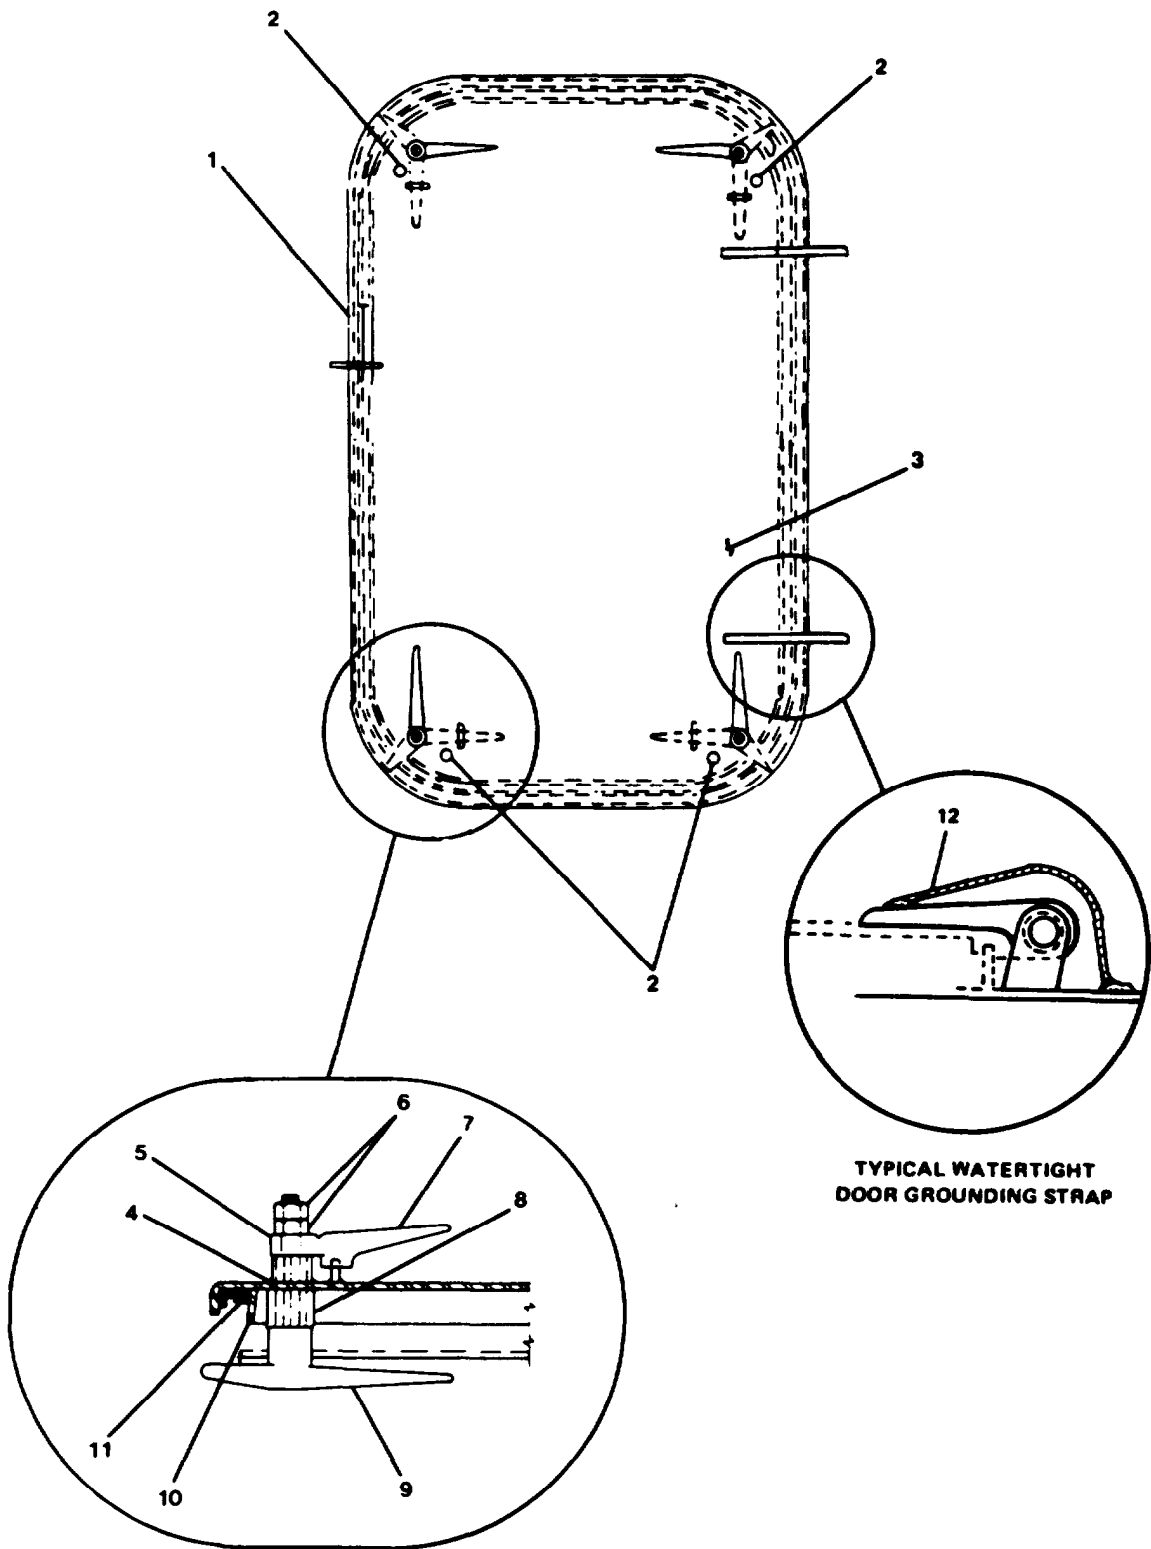

FIGURE 2-171. Repair Watertight Door. Four Dogs (30 x 51).
- a. Remove hex nuts (6, FIGURE 2-171) and handles (7) from door (1).
- b. Remove bronze bushing (5) and preformed packing (4) from door.
- c. Remove dog door closer (9) from door.